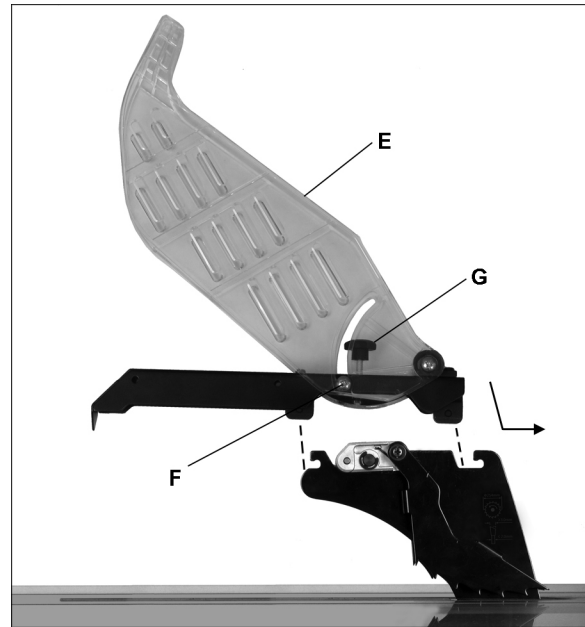

Figure 6-12
See Figure 6-12.
1. Push up guard leaves (E, Figure 6-12) until they catch and hold on the peg (F).
3. Tighten knob (G).
4. Pull down guard leaves (E) and allow them to drop to the table.